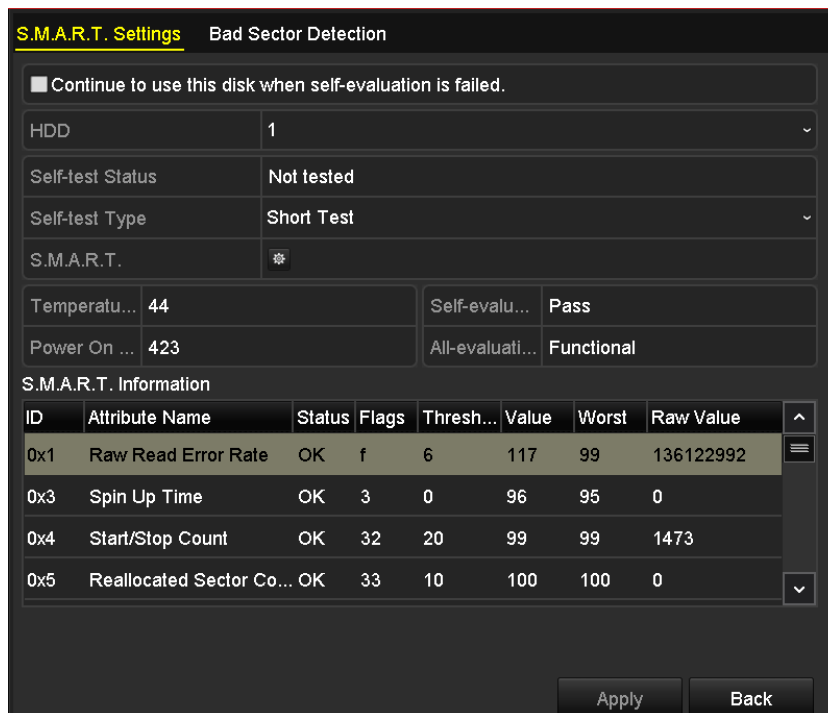

Figure 13-24 S.M.A.R.T Settings Interface
Step 2 Select the HDD to view its S.M.A.R.T information list, as shown in Figure 13-24.